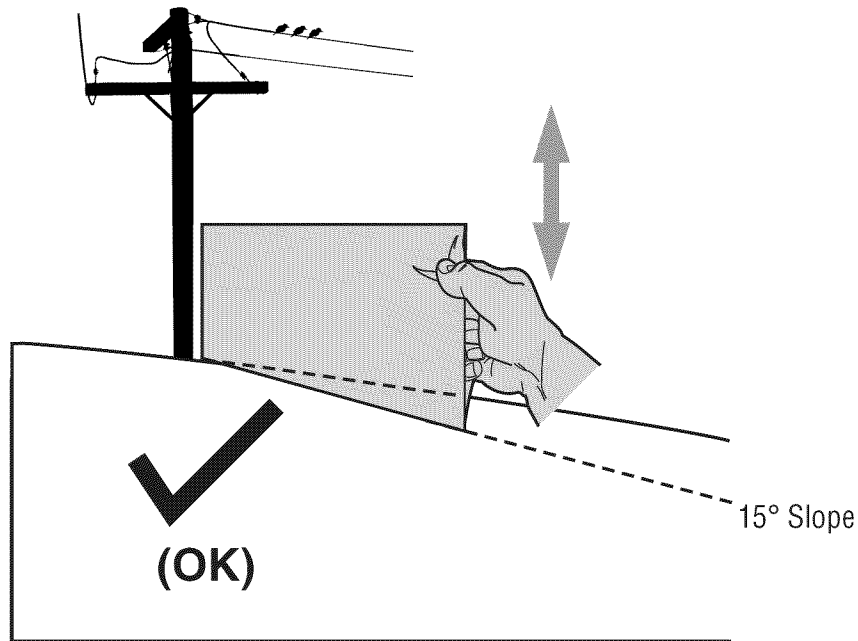
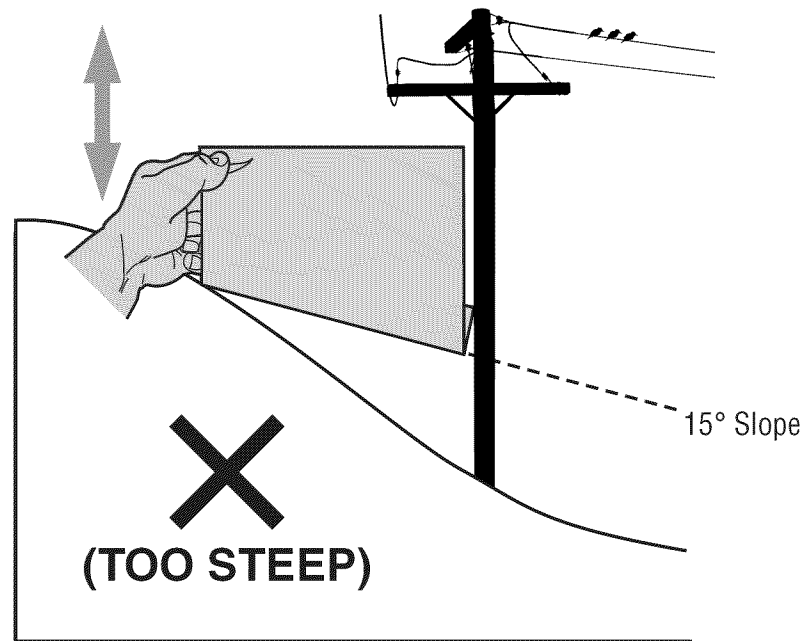

Figure 1
Figure 2
3. Align either side of the slope gauge with the object (See Figure 1 and Figure 2).
4. Adjust gauge up or down until the left corner touches the slope (See Figure 1 and Figure 2).